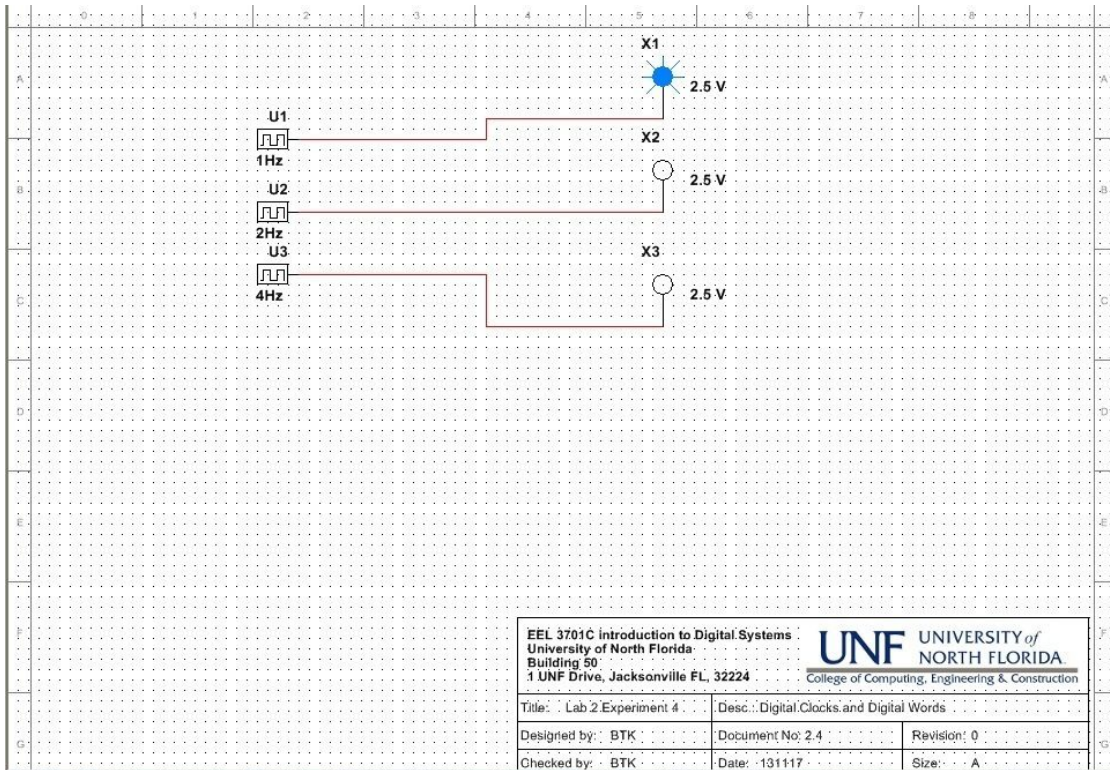

Figure 10.Using DIGITAL_CLOCK sources as counters.
- 2) Create the schematic shown in Figure 10 using DIGITAL_CLOCK sources and PROBE_BLUE symbols. Change the clock frequencies as shown in the Figure so that they are 1Hz, 2Hz, and 4Hz respectively.